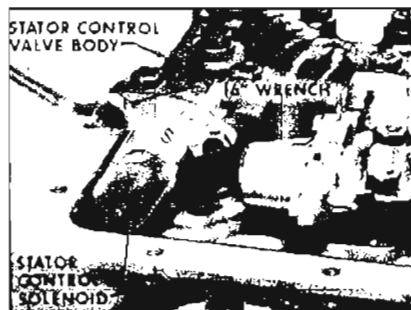

Figure 5-112
5. Remove two (2) solenoid to stator control valve body retaining bolts with 7/16" wrench. Remove stator control solenoid gasket. See Figure 5-112.